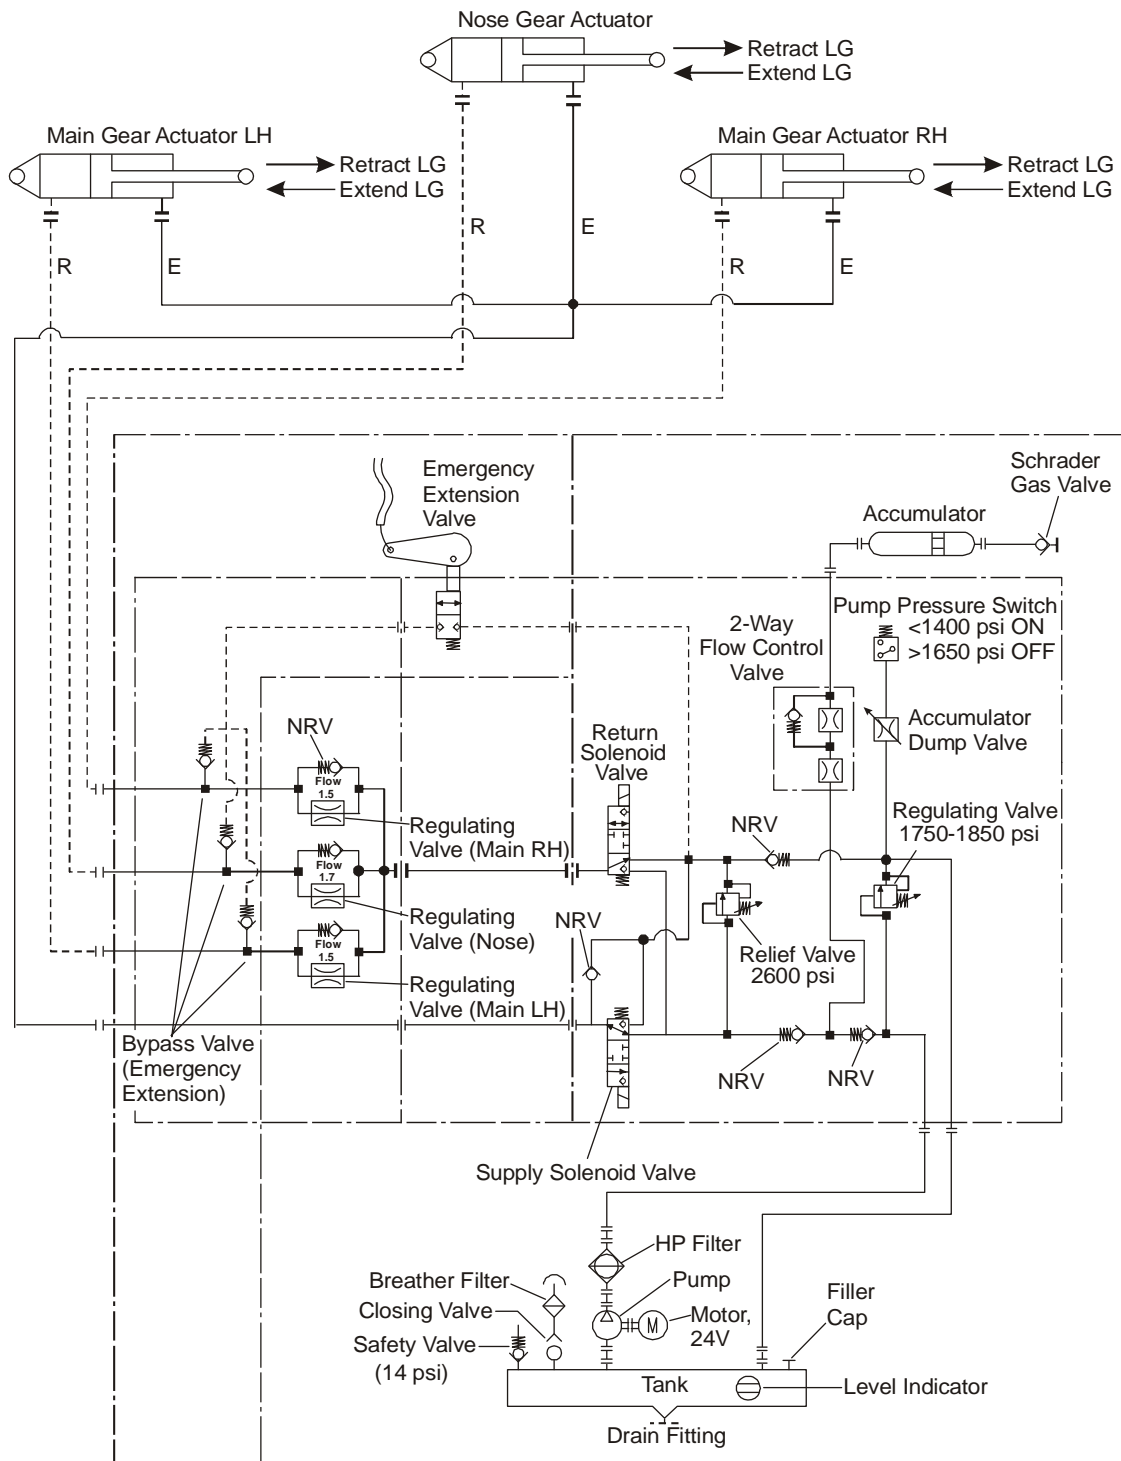

Figure 6: Hydraulic Schematic Diagram - Normal Extension Operation
- The electrical circuit to the hydraulic pump is closed and the pump will operate if the system pressure is less than 96.5 bar (1400 PSI). The extend solenoid valve de-energizes (Figure 6) and fluid from the hydraulic pump flows through the extend solenoid valve into the extend side of the actuator. The retract solenoid valve de-energizes and allows the hydraulic fluid to flow from the retract side of the actuators, through the regulating valves and back into the reservoir.